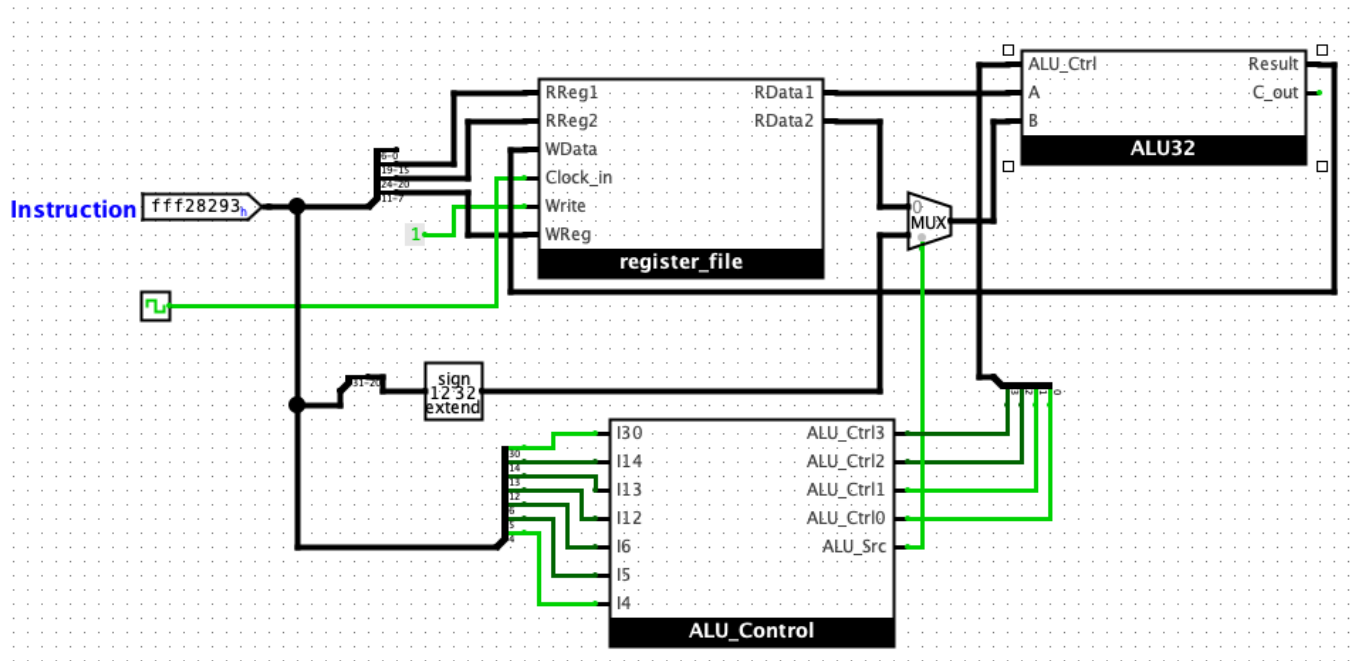

Figure 1. Datapath and control for RISC-V RV32I arithmetic-logical instructions
- Connect your ALU\_Control, 32-bit ALU, and register file circuits with the necessary wiring and additional logic to construct a datapath that executes the arithmetic-logical instructions in Table 1. Your completed circuit should look similar to the one shown in Figure 1. Test your completed circuit by entering machine language instructions in the instruction input, simulating them, and checking that the execution is correct.